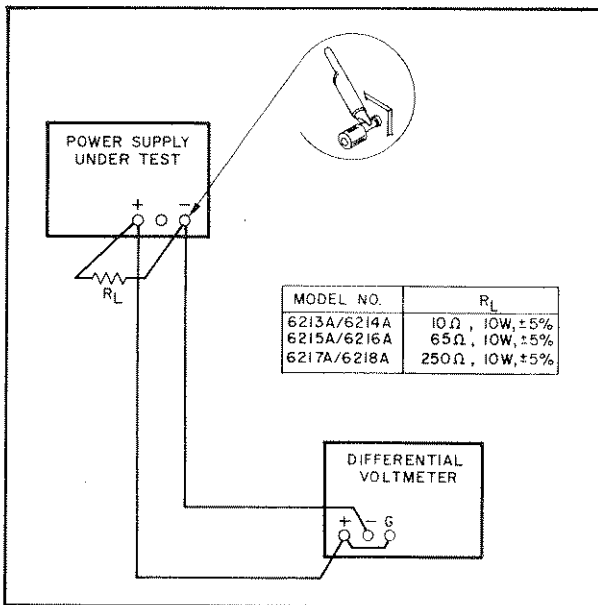

Figure 5-5. Load Regulation, Test Setup
- a. Connect test setup as shown in Figure 5-5.
- b. Connect test setup shown in Figure 5-5.